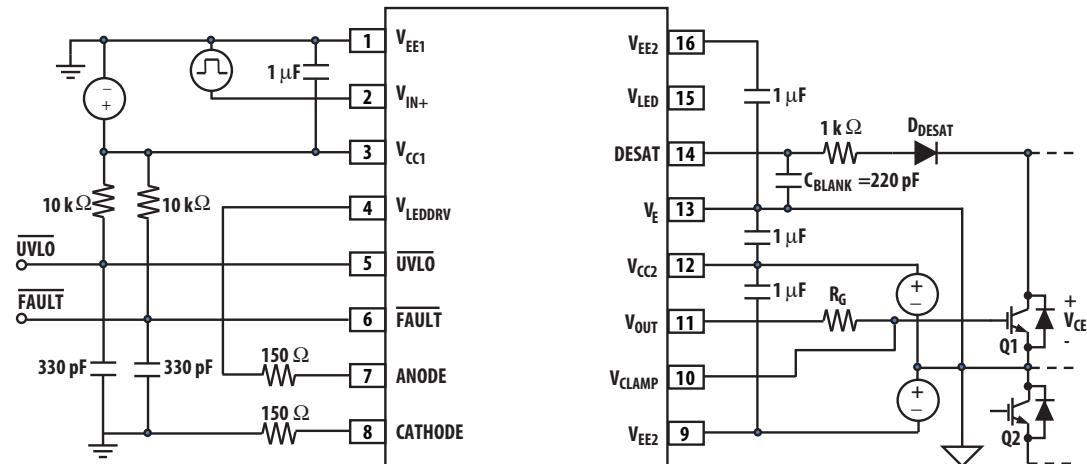
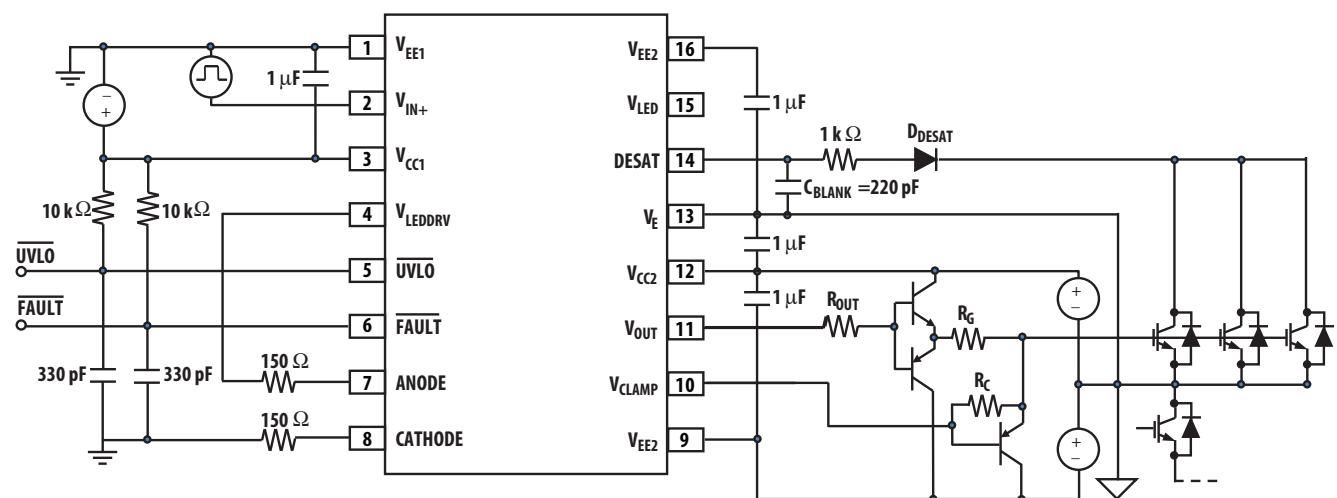

Figure 20. Typical gate drive circuits with DESAT detection
Figure 21. Typical parallel IGBT gate drive circuits with DESAT detection
The nominal blanking time is calculated in terms of external capacitance (C_{BLANK} , see Figure 20 and Figure 21), FAULT threshold voltage (V_{DESAT}), and DESAT charge current (I_{CHG}) in addition to an internal DESAT blanking time ($t_{DESAT(BLANKING)}$).
Step 1: Calculate R_G minimum from the $I_{O(PEAK)}$ specification. The IGBT and R_G in Figure 20 can be analyzed as a simple RC circuit with a voltage supplied by ACPL-336J.
In the recommended application circuit shown in Figure 20, the voltage on pin 14 (DESAT) is $V_{DESAT} = V_F + V_{CE}$, where V_F is the forward ON voltage of D_{DESAT} and V_{CE} is the IGBT collector-to-emitter voltage. The value of V_{CE} that triggers DESAT to signal a FAULT condition is nominally $7\text{ V} - V_F$. If desired, this DESAT threshold voltage can be decreased by using multiple DESAT diodes or low-voltage Zener diode in series. If n is the number of DESAT diodes, the nominal threshold value becomes $V_{CE,FAULT(TH)} = 7\text{ V} - n \times V_F$. If a Zener diode is used, the nominal threshold value becomes $V_{CE,FAULT(TH)} = 7\text{ V} - V_F - V_Z$. When using two diodes instead of one, then diodes with half of the total required maximum reverse-voltage rating may be chosen.